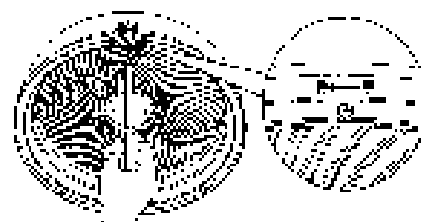

Fig. 2
Note: Unscrew the lock screw from the front grille before assembly (see Fig. 2).
- A. Tighten the lock screw to secure the grilles (see Fig. 2).